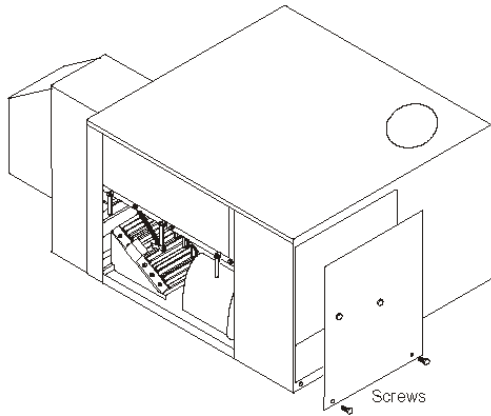

Figure 12: Removing Control Cover
14. Remove the two bottom screws securing control cover to the unit as shown in Figure 12. Remove the control cover from the unit.